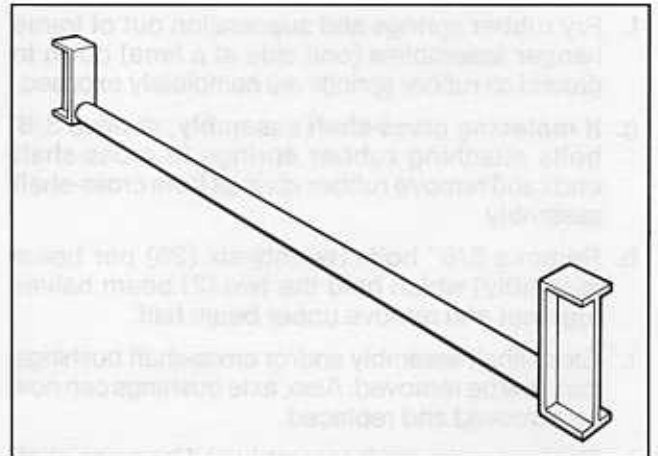
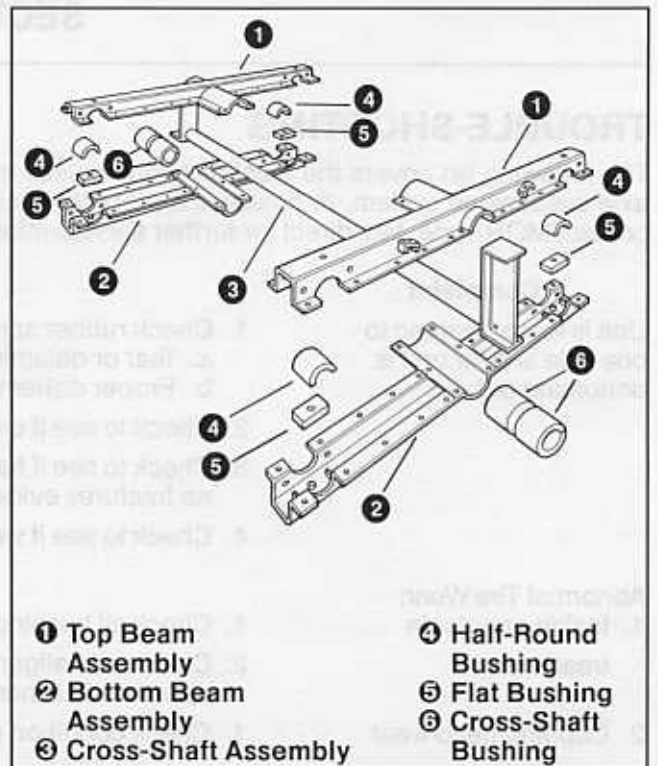

Figure 8 — LITE/ryde Tandem Cross-Shaft Assembly
Figure 9 — LITE/ryde Beam, Cross-Shaft and Bushing Assemblies
The cross-shaft assembly utilized on the LITE/ryde tandem axle suspension acts as the fulcrum for the walking beam assemblies and supports one side of the rubber springs located between the two (2) axles. Refer to Figure 8. The cross-shaft axle attachments to the walking beams are insulated through rubber bushings. Refer to Figure 9.
- h. Remove 3/8" bolts [twenty-six (26) per beam assembly] which hold the two (2) beam halves together and remove upper beam half.
- j. Replace cross-shaft assembly and/or cross-shaft bushings. Before putting beam halves together, make sure cross-shaft bushings are properly located with seams aligned horizontally with mating surfaces of beam halves. Refer to Figure 9.